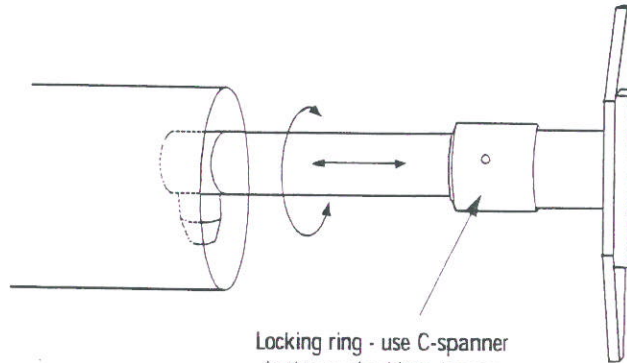

Fig. 1
- 10 • Check that the transmission light is centered as closely as possible on the sensor lens. If centering is required, loosen the light tube lock ring (fig. 1), enough so that the tube can be rotated or moved horizontally as necessary.